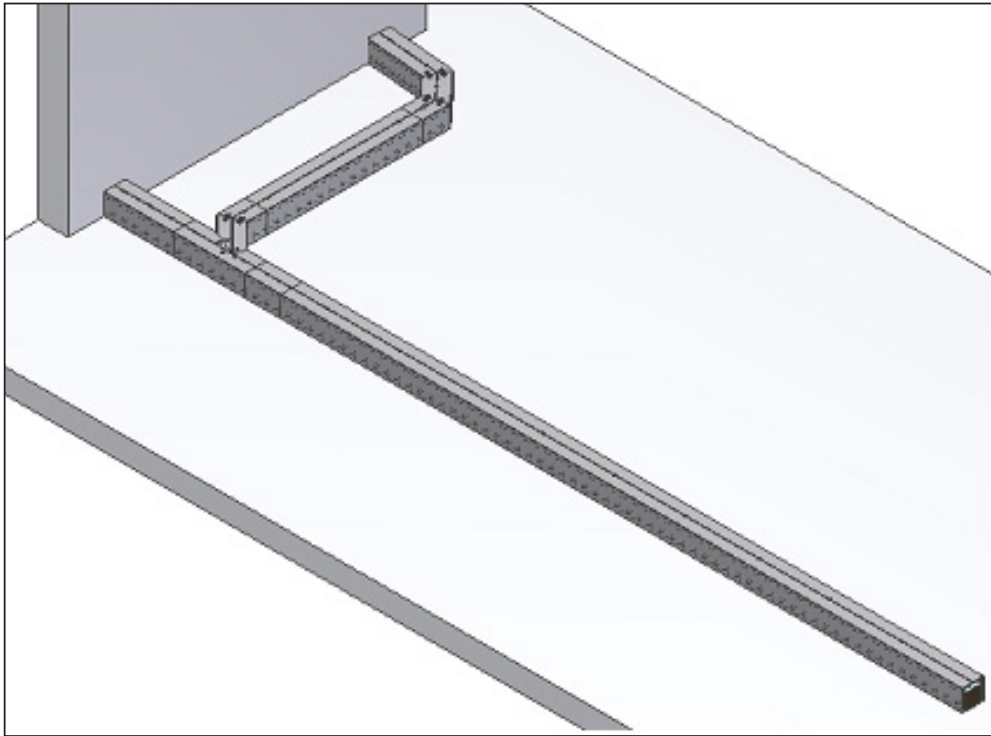

Figure 2
1. Lay out the Track on the floor as detailed by the Component Placement Plan (CPP) . This will verify that all component pieces are present and correct (Fig 2).